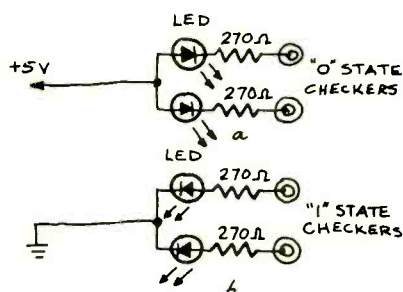

FIG. 4—VISUAL STATE INDICATORS are used 12345 to denote logic levels. The low-state indicators are shown in a, and the high-state indicators are shown in b.
The state checkers (See Fig. 4) are simple LED indicators. They are used to indicate whether a given part of a circuit is in a logic HI (1) or LO (0) state. Two LED's are wired to be turned on by logic LO and are shown in Fig. 4-a. The other two LED's are wired to be turned on by a logic HI and are shown in Fig. 4-b. For convenience of use, the four LED's are different colors.